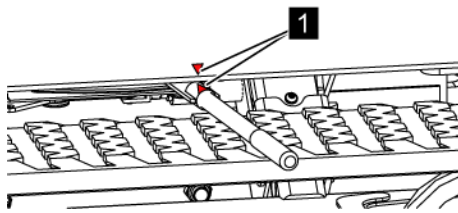

Fig. 142: Red arrows
9. ➔ Make sure that the locking mechanism has engaged properly in place. To do so, the hand pump lever must have been set back enough so that the two arrows (Fig. 142/1) are positioned one above the other.